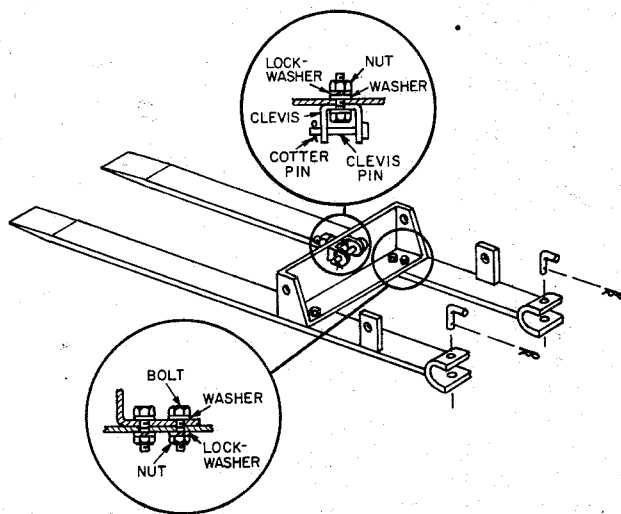

Figure 1
3. Secure the bracket to the forks with four 5/16-18 x 1 inch bolts, using plain washers under their heads as shown in the inset to Figure 1.
4. Install the lift clevis assembly on the back of the vertical member of the bracket, also shown in the inset in Figure 1.